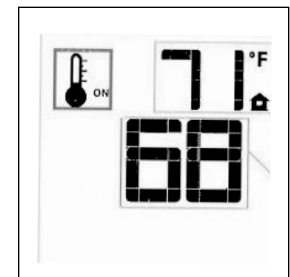

Figure 16.17. Smart Set Temp.
- To adjust the temperature, press the Up or Down Arrow Keys until the desired Set Temperature is displayed. Fig.16.17.